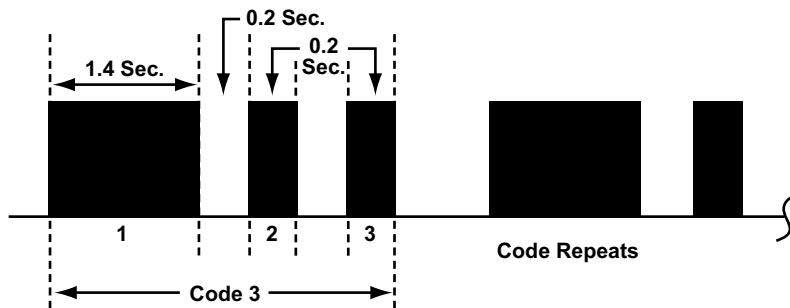

Figure 8-16 Honda ABS Code Type 05a
- Type 05a, see Figure 8-16 and Table 8-9 on page 64